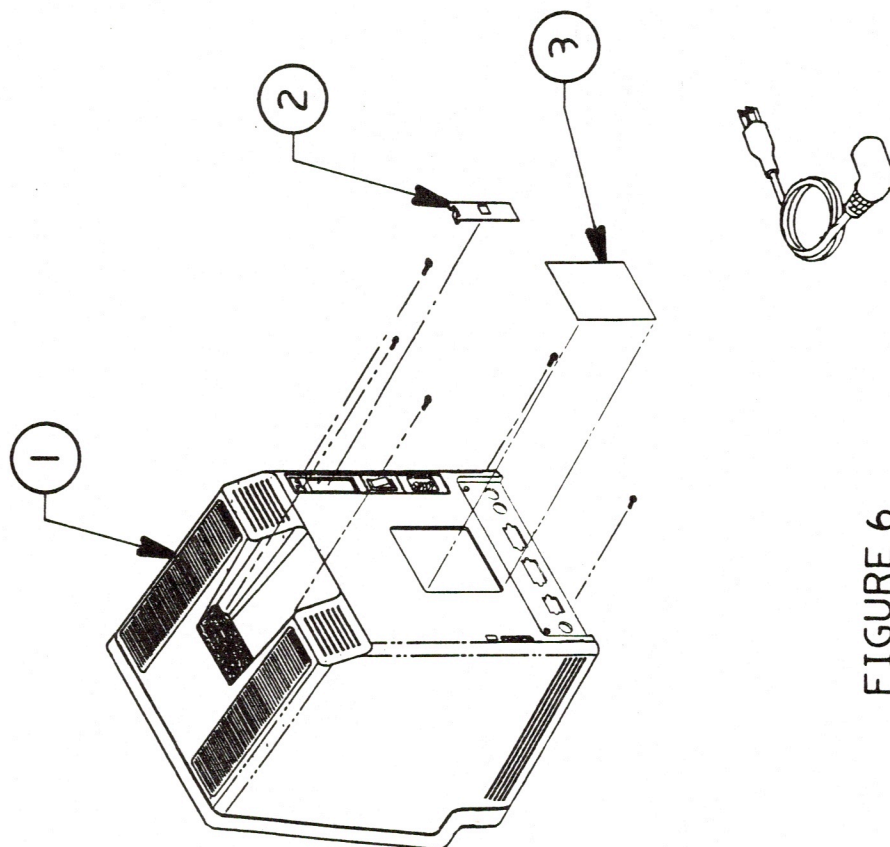

FIGURE 6
□ MACINTOSH PLUS – REAR HOUSING (Figure 6)